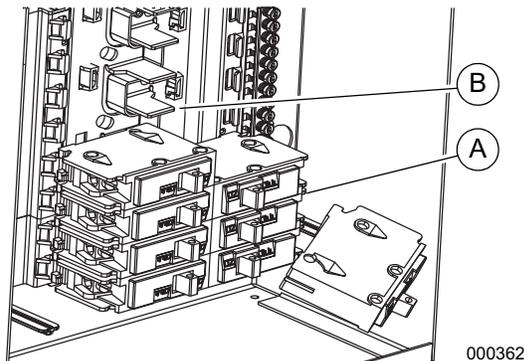

Figure 3-6. Install Breakers
See Figure 3-6. Insert tab on each breaker (A) into the hook on the bus (B). Push breaker into bus until it snaps into place.